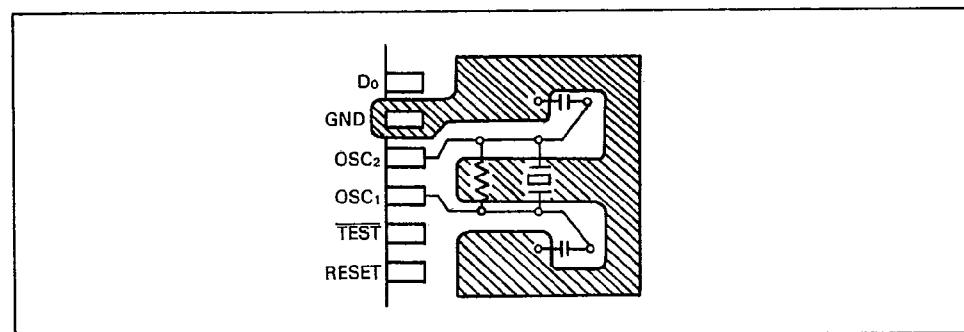

Figure 17. Layout of Crystal and Ceramic Filter
lator can be selected as the oscillator type. Refer to table 20 to select the type. In addition, see figure 17 for layout of the crystal or ceramic filter.
2. Wiring between OSC₁, OSC₂, and elements should be as short as possible, and never cross other wiring. Refer to figure 17.